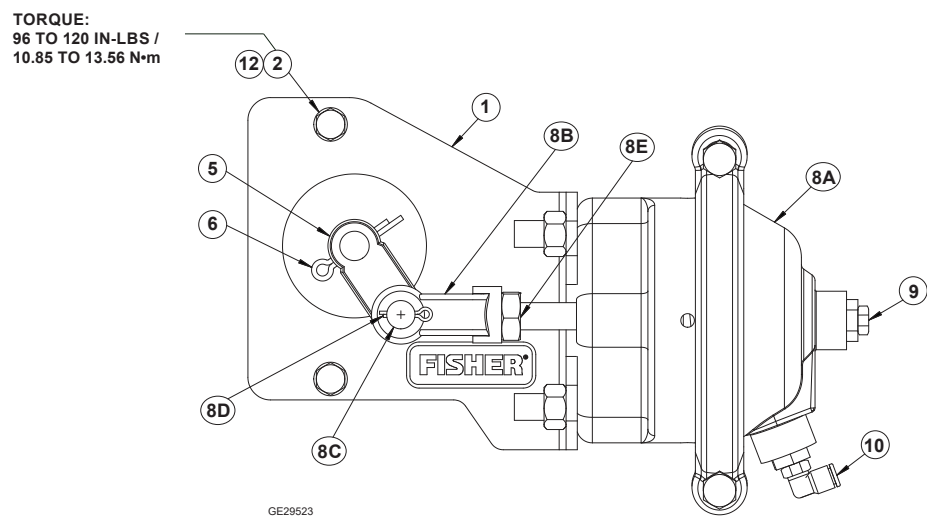

Figure 5. Type P623 for Type C483-24 Internal Valves
Type P623—Mount the bracket (key 1) to the flanges with two bolts (key 2) and two lock washers (key 12) using 96 to 120 in-lbs / 10.85 to 13.56 N•m torque as shown in Figure 5, fitting the operating lever (key 5) on the internal valve shaft.